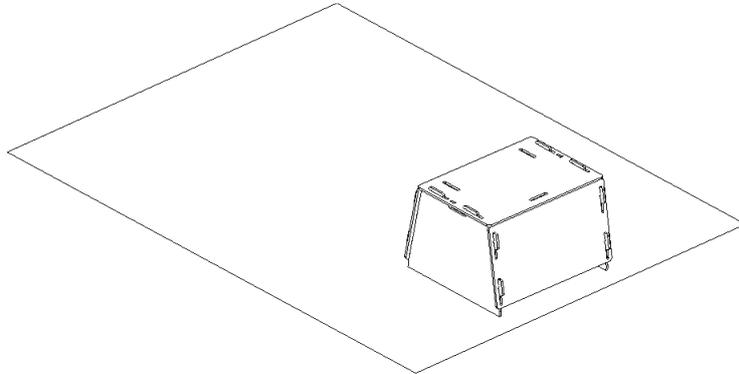

Figure 155: Scanner stand resting on a pattern.
2. Align the scanner stand with the rectangle marked on the pattern, paying close attention to the orientation of the slots in the stand cover (see Figure 155).